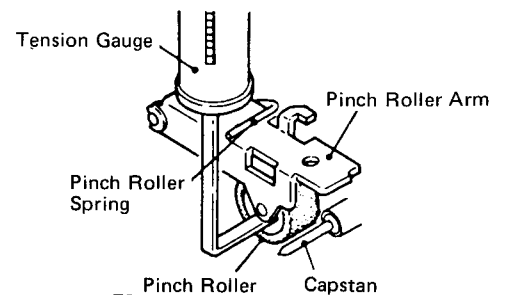

Fig. 21
- Setting the mechanism vertically in the playback mode, the pinch roller should stop turning at the pressure of 350~500g when the pinch roller arm has been pulled upwards by tension gauge as shown in Fig. 21.